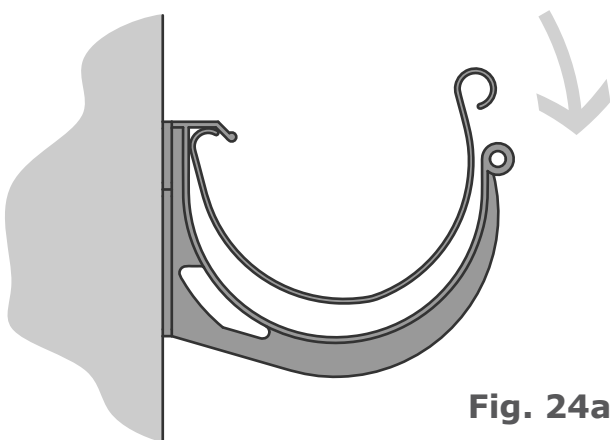
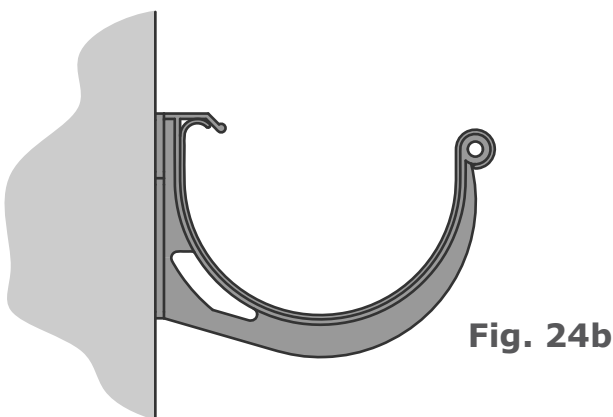

Fig. 24a
Fig. 24b
15.2. Vynadeep® gutter sections clip into brackets (DK501) from the top. Rest the gutter section on the brackets, taking care to position the rear facing bead as illustrated in Fig. 24a. Clip the front facing gutter bead over the brackets (Fig. 24b). You can use a tool to help lever the bead open when clipping into brackets.